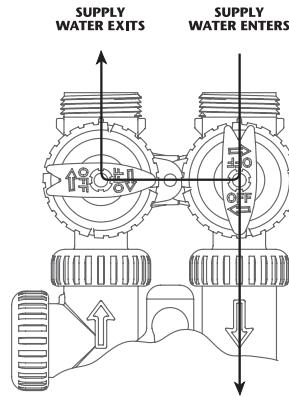

FIGURE 3
3. **DIAGNOSTIC POSITION:** The inlet handle points toward the control valve and the outlet handle points to the center of bypass valve. Untreated supply water is allowed to flow to the system and to the building, while not allowing water to exit from the system to the building (**Fig. 3**). This allows the service technician to draw brine and perform other tests without the test water going to the building.
4. With the bypass now in diagnostic mode (**Fig. 3 on page 4**), check to verify that water is being drawn from regenerant tank with no air leaks or bubbles in the brine line. There should be a slow flow to the drain. Disconnect brine line from the safety float valve in the brine tank and check for a vacuum. After proper confirmation, reconnect brine line, making sure to tighten securely.